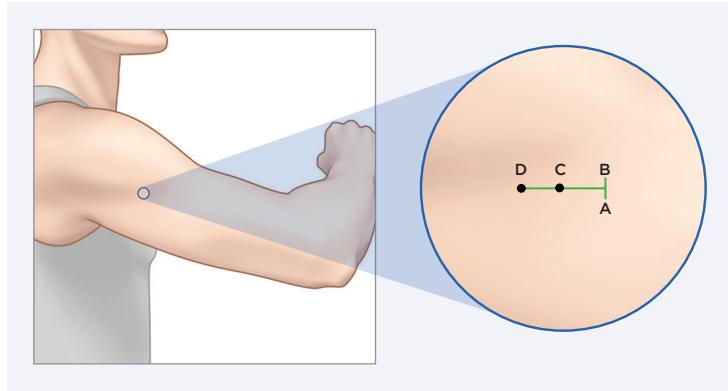

Figure 1
Local anaesthesia (approximately 2 mL of Lidocaine) should be injected along the planned incision (along AB) and perpendicular to the planned incision (along CD) which is the planned track of the blunt dissector tool. (Figure 1).
Start incision at point B (Figure 1) and go towards point A, until the incision is approximately 5 mm.
- Remove the blunt dissector from the tray and introduce the blunt dissector at approximately a 45-degree entry angle at the midline between A and B (Figures 1 & 2) so that the tip and tapered portion of the blunt dissector are under the skin, and until the depth guards are touching the skin.